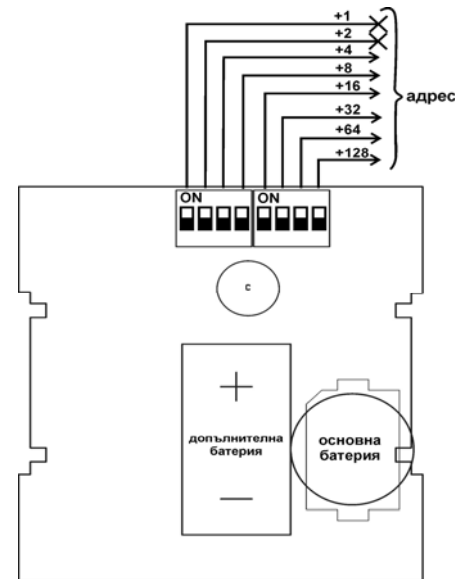

Fig. 1. Board view
- step 1: MBSS must be unpacked and opened. If the battery (batteries) is (are) not mounted, first thing to do is to place battery in its working position (shown on Fig.1.). After that MBSS must be turned OFF like described in previous paragraph